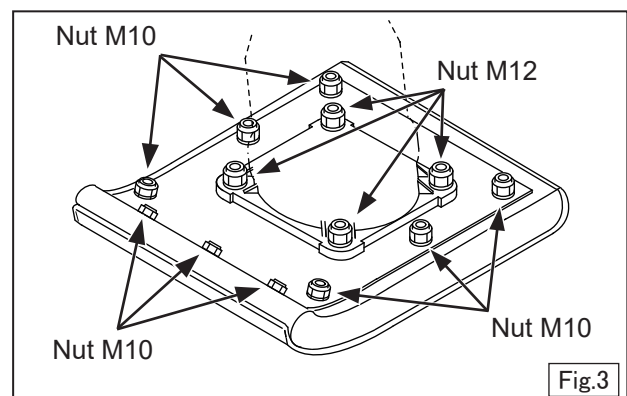

Fig.3
5. Before using, be sure to retighten each nuts for foot mounting. (Fig.3)